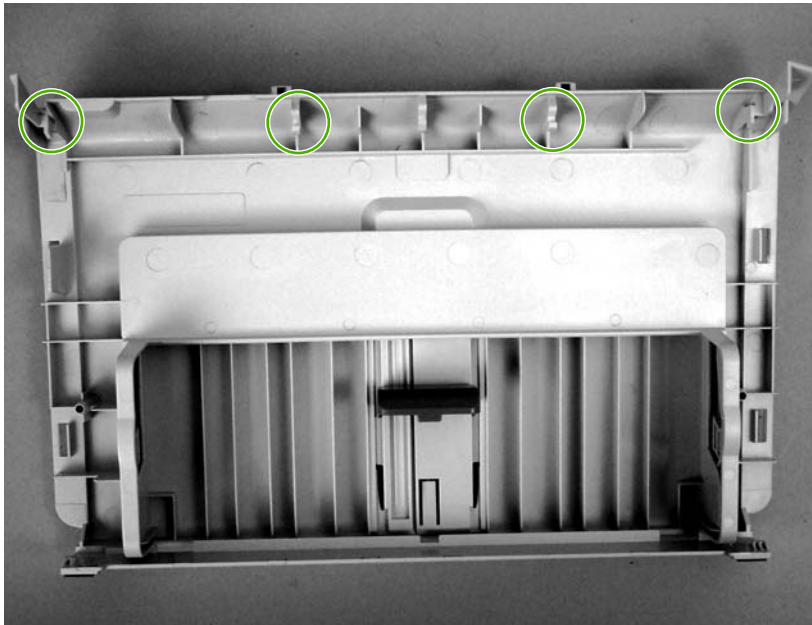

Figure 5-17 Remove the front cover (1 of 3)
- 2 Before removing the cover, examine Figure 5-17 Remove the front cover \(1 of 3\) on page 75 and note the locations of the plastic tabs at the top of the front cover. Open the print-cartridge door.